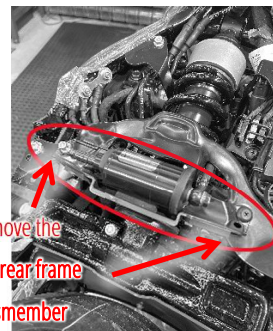

Fig. 3
11. Remove the upper rear frame crossmember holding the preload adjuster and relocate the preload adjuster using included relocation bracket as shown on the figures 3 and 4. Don't put the upper rear frame crossmember back after relocation.